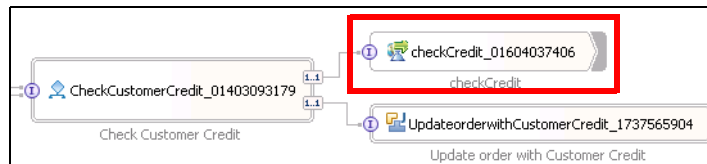

Figure 16-31 Delete import for old Web service
- ▶ Delete the import (`checkCredit`) for the old Web service (Figure 16-31).